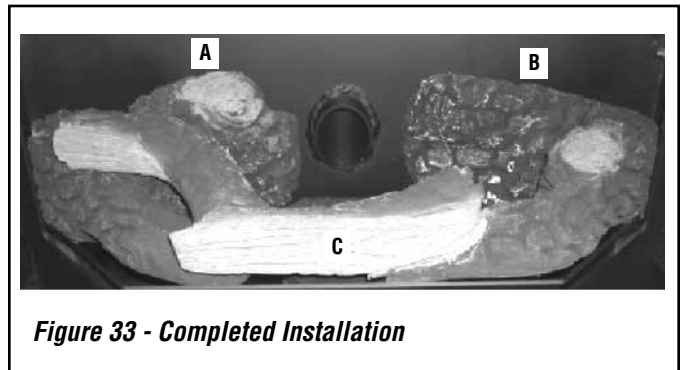

Figure 33 - Completed Installation
3. Remove the ceramic logs from the box and carefully unwrap them. Position each back log (A and B in *Figure 33*) in their proper place, one on each side against the back of the firebox.
4. The front log should face the front of the firebox with the wood grain showing. It should rest on the other two back logs. See *Figure 33* for assembled log set.